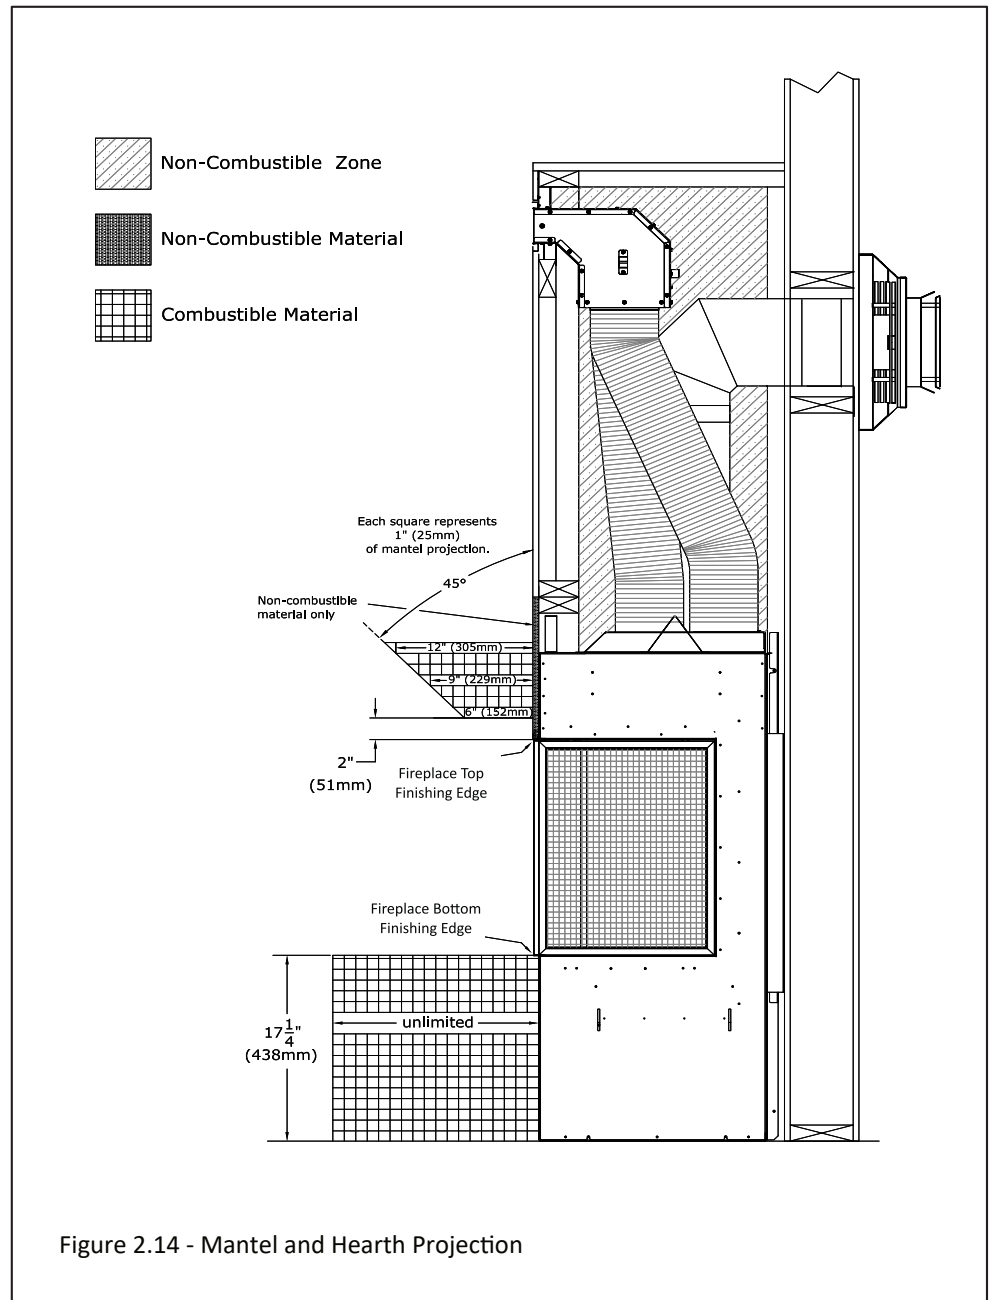

Figure 2.14 - Mantel and Hearth Projection
- **Combustible Mantel Projections:** A maximum of a 6" (152mm) mantel can be installed at 2" (51mm) above the side and top finishing edge. Mantel projections can increase 1" (25mm) of depth for every 1" of height starting at the 6" (152mm) mantel. See Figure 2.14.
- **Combustible Hearth:** Combustible hearth can have an unlimited projection. Hearth can be raised flush to the bottom finishing edge. See Figure 2.14.